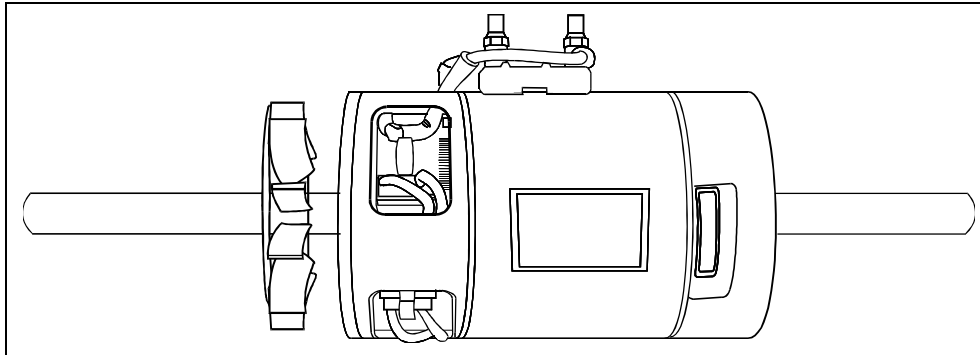

FIGURE 3: PLASTIC FAN ON THE EVAPORATOR MOTOR
9. Remove the plastic fan (Fig. 3).